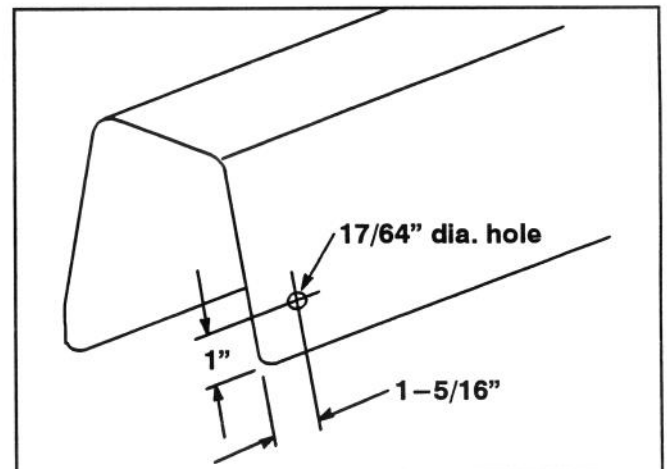

Figure 2
10. Using dimensions shown in figure 2, locate, mark and drill 17/64" dia. hole in back, rear corner of instrument panel.